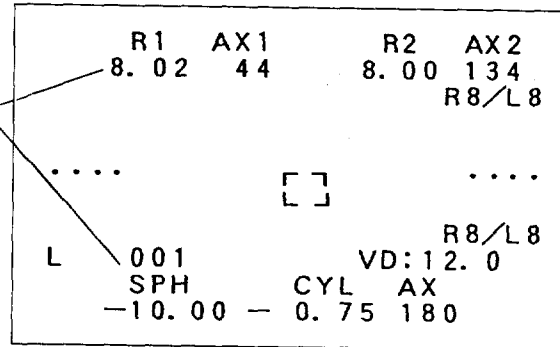

Figure 6-10 Sample Screen After Measurement
- ⑥ Measured values are displayed directly on the screen (see Figure 6-10).